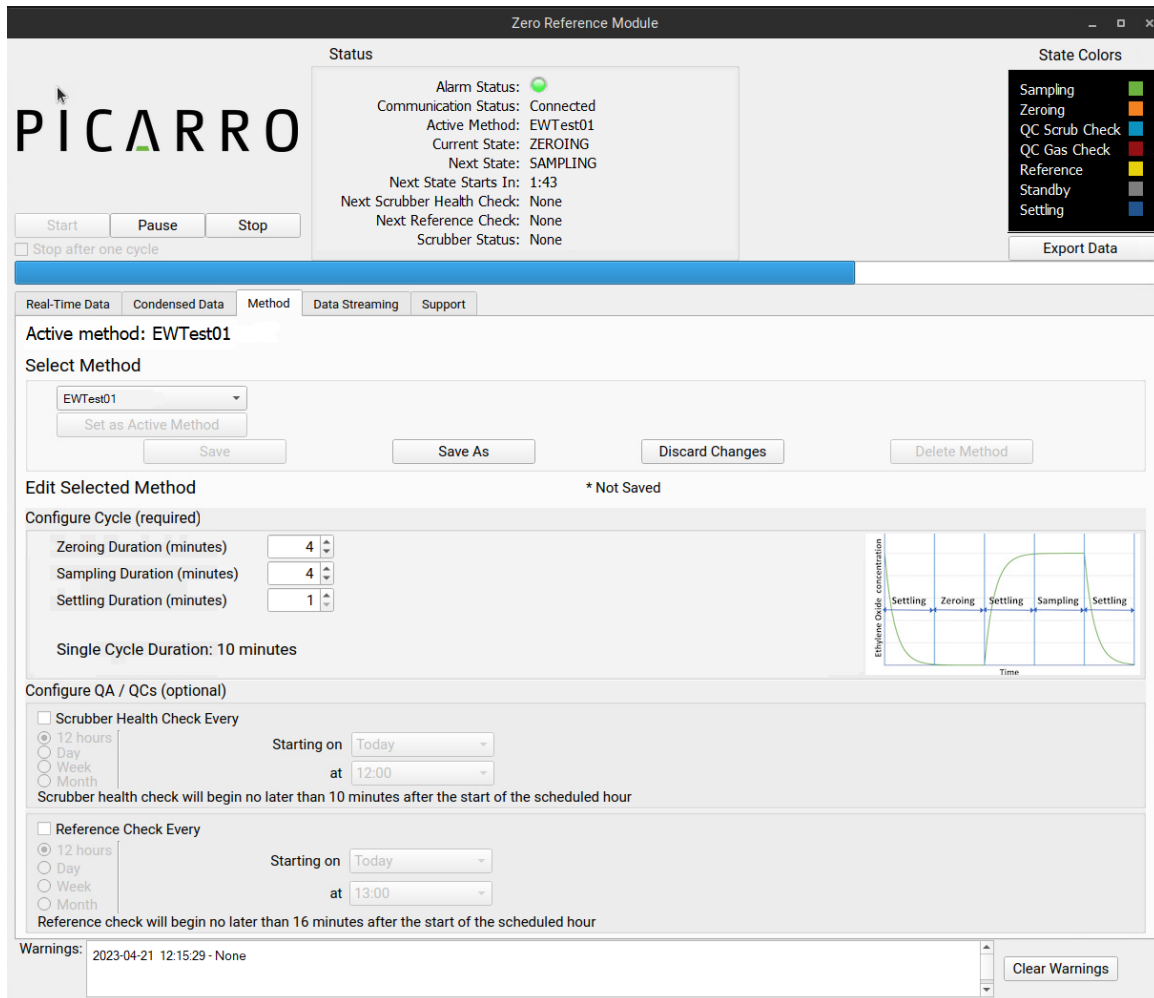

Figure 9: Operational Method Setup and Run
2. Click the **Method** tab (Figure 9 above).